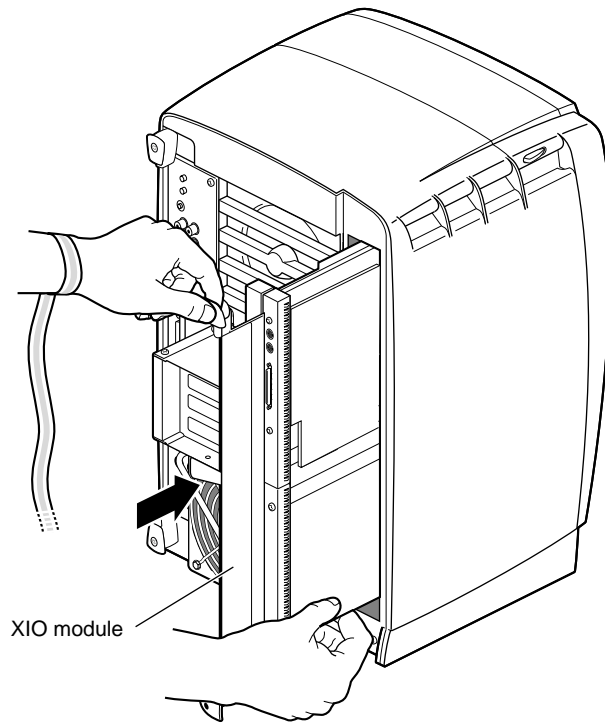

Figure 1-22 Inserting the XIO Module Into the Chassis
- Make sure the handle portion protrudes in a locked position from the I/O panels, as shown in Figure 1-22.
- If the handles are flush with the I/O panels, the XIO module stops during insertion. Pull out the handles until the sliding portion of the XIO module looks like that shown in Figure 1-22, and then continue inserting the XIO module into the chassis.